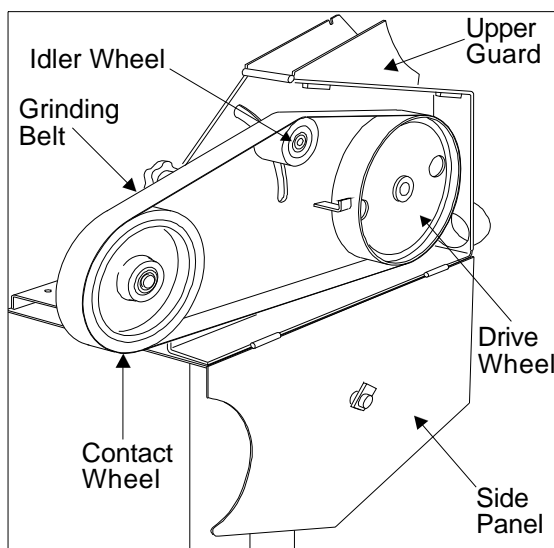

Figure 7: Replacement of Grinding Belt
1. Refer to Figure 7. Lower the belt tension lever to release tension on the belt.